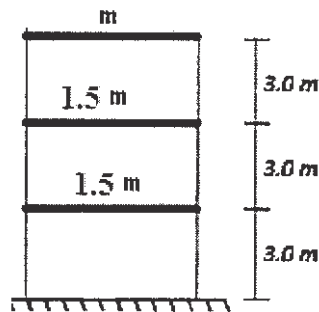

Figure6.1
- Q6)** Calculate the distribution of base shear at each floor level as per seismic coefficient method for the OMRF with brick infill building shown in Fig. 6.1. The building is located in Zone V. The frames are spaced at  $4 \text{ m c/c}$ . Assume  $m = 3000 \text{ kg}$  and soil of Type III. [18]